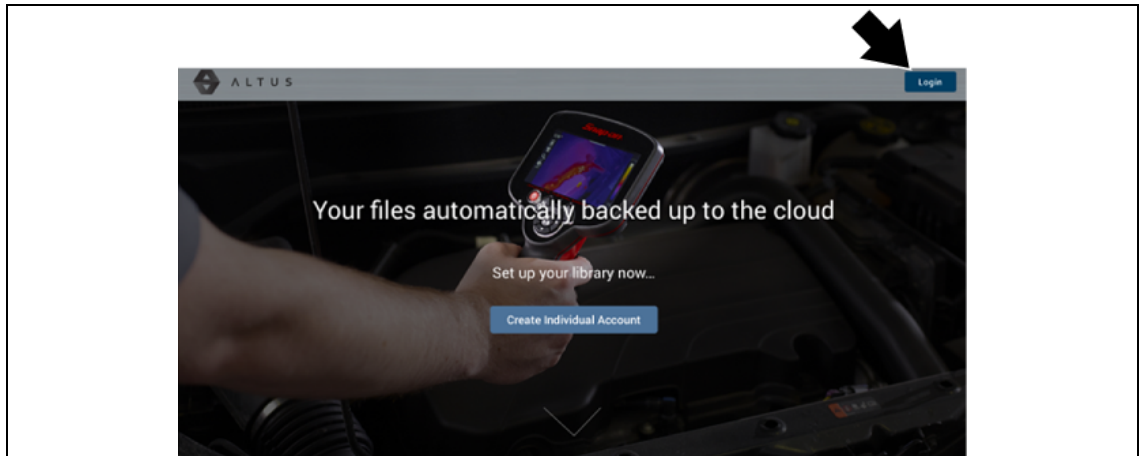

Figure 8-1
2. Select the **Login** icon (Figure 8-1).